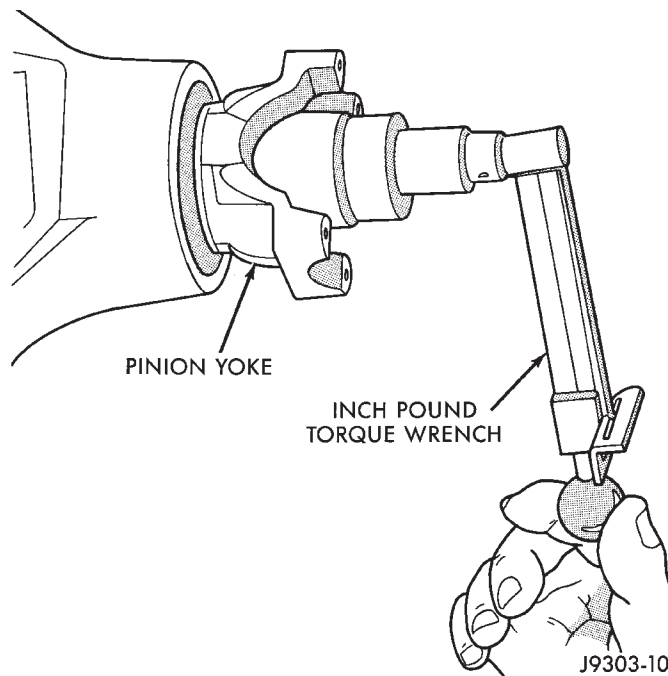

Fig. 47 Check Pinion Gear Rotating Torque
- (15) Slowly tighten the nut in 6.8 N·m (5 ft. lbs.) increments until the rotating torque is achieved. Measure the rotating torque frequently to avoid over crushing the collapsible spacer (Fig. 47).
- (16) Check bearing rotating torque with a (in. lbs.) torque wrench (Fig. 47). The torque necessary to rotate the pinion gear should be: